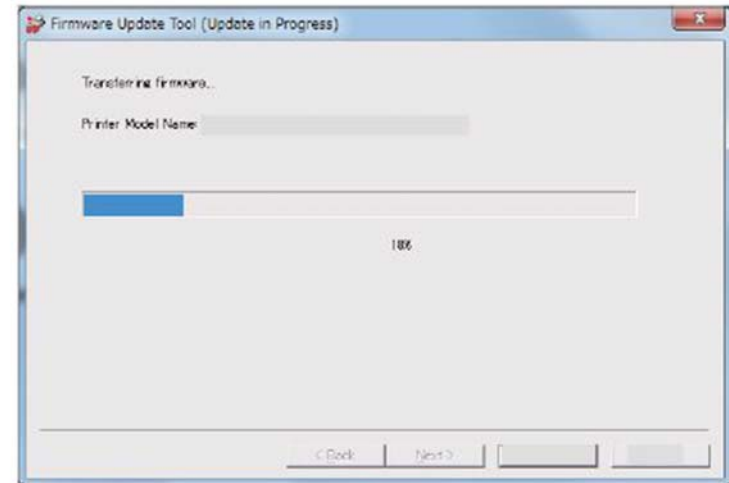

Figure 10 Update in progress
10. The Firmware update status appears on the Update in Progress screen, Figure 10.